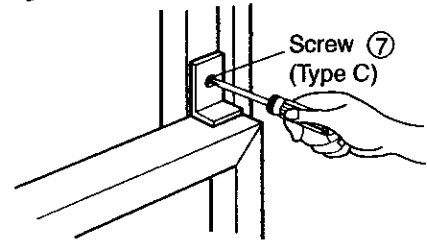

Figure 109
10. Attach the window locking bracket ⑫ with a type C screw ⑦ (See Figure 109)